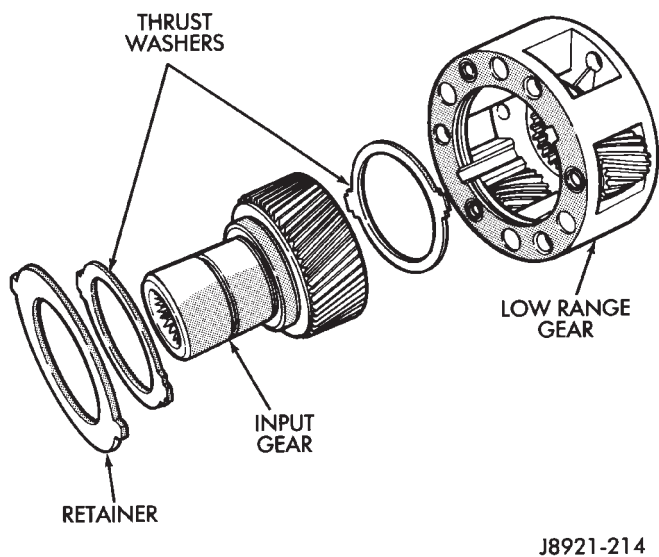

Fig. 40 Low Range Gear Disassembly
(6) Remove input gear retainer, thrust washers and input gear from low range gear (Fig. 40).